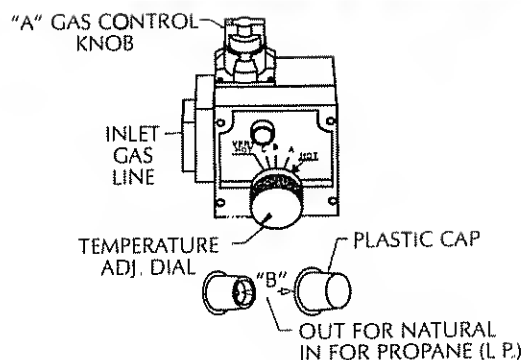
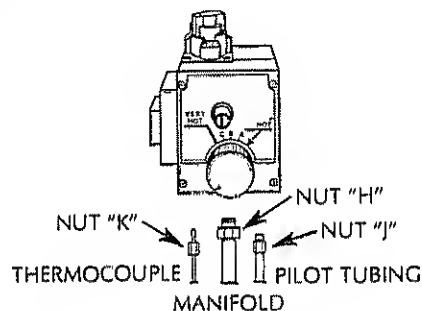
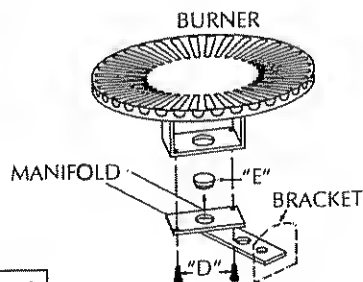
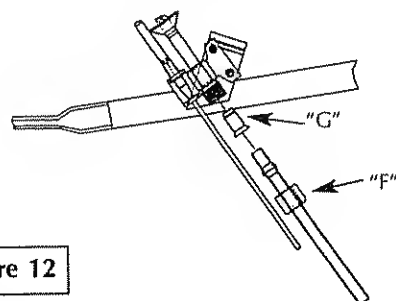

Figure 9
Figure 10a
Figure 11
Figure 12
- Step 1. Turn gas control knob "A" to "PILOT". Depress and turn "OFF". (See Figure 9, page 20).
- Step 3. Remove burner assembly from water heater control by first removing 6 screws holding inner door to heater, then loosening $\frac{3}{4}$ " nut "H" holding burner assembly to control. (See Figures 10a and 10b, page 20). Loosen pilot tube nut "J" and thermocouple nut "K" at control.
- Step 4. Remove screws "D" disengaging manifold from burner. (See Figure 11, page 20)
- Step 5. Remove orifice "E" (See Figure 11, page 20) using $\frac{3}{8}$ " wrench. Install orifice marked "L.P." found in the bag into manifold. Tighten securely. Secure burner to manifold with screws "D".
- Step 6. Loosen pilot tube nut "F" (See Figure 12, page 20). Remove orifice "G" and replace with red colored orifice found in bag. Reinstall nut "F" and tighten securely
- Step 7. Make sure all connections are tightened securely, and reinstall burner assembly into water heater. Position end of the manifold inside bracket as shown in Figure 11 on page 20. Reinstall manifold into control and tighten $\frac{3}{4}$ inch nut ("H") securely. Recheck to see that end of manifold is still inside bracket as shown in Figure 11 on page 20. Reinstall pilot tubing and thermocouple into control. (See Figure 10a, page 20). Reinstall inner door using the 6 screws removed in step 3.
- Step 8. Place screwdriver in slot "B". (See Figure 9, page 20). Depress and turn counter-clockwise (↺) to stop. Control screw must be in "IN" position for propane (L.P.) gas and in "OUT" position for natural gas. **STOP!** Read label "For Your Safety" located on your water heater.
- Step 11. Wait five (5) minutes to clear out any gas. If you then smell gas, **STOP!** Follow "B" in the safety information on "For Your Safety" label. If you don't smell gas, go to the next step.
- Step 12. Open pilot door. The pilot is located in front of the burner. (See Figure 12, page 20)
- Step 14. Push in control knob all the way and hold down. Immediately light the pilot through pilot light hole with a match held by a match holder wire. Continue to hold control knob in for about one (1) minute after the pilot is lit. Release knob and it will pop back up. Pilot should remain lit. If it goes out, repeat steps 9 through 12.
- Step 15. Check for gas leaks with only pilot flame burning using a soapy water solution, not a match or open flame. Check for gas leaks at fittings "F" and "G" (See Figure 12, page 20) and at fitting "J" (See Figure 10a, page 20).
- Step 16. Make sure temperature adjustment dial is turned clockwise (↻) in its lowest position (See Figure 9, page 20).
- Step 19. With a soapy water solution, not a match or open flame, check for gas leaks at gas connection "H". (See Figure 10a, page 20) If gas leak occurs, turn off immediately by shutting off gas cock at inlet to control, or by turning gas control knob (↻) to "PILOT" pushing down and turning to "OFF". Repair gas leak as necessary, and repeat steps 9 through 19